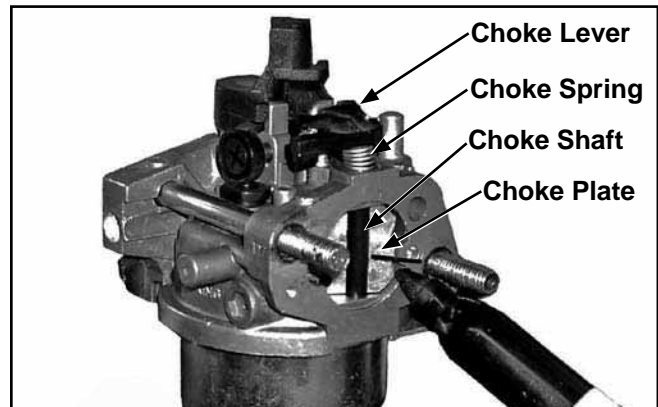

Figure 5-11. Mark Choke Plate and Carburetor.
- To ensure accurate reassembly, mark the choke plate and the carburetor body with a waterproof pen. See Figure 5-11.
5. Noting the marks made earlier on the choke plate and the carburetor, insert the choke plate into the slot in the choke shaft. See Figure 5-11. The plate is held in the shaft by dimples on the plate's surface.